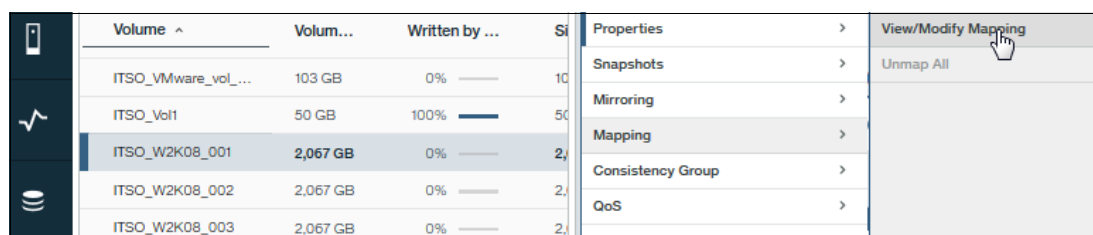

Figure 1-29 Mapping a LUN to a host
1. From the Pools and Volumes Workspace view, select the volume to map, and select **Actions → Mapping → View/Modify Mapping** (see Figure 1-29).